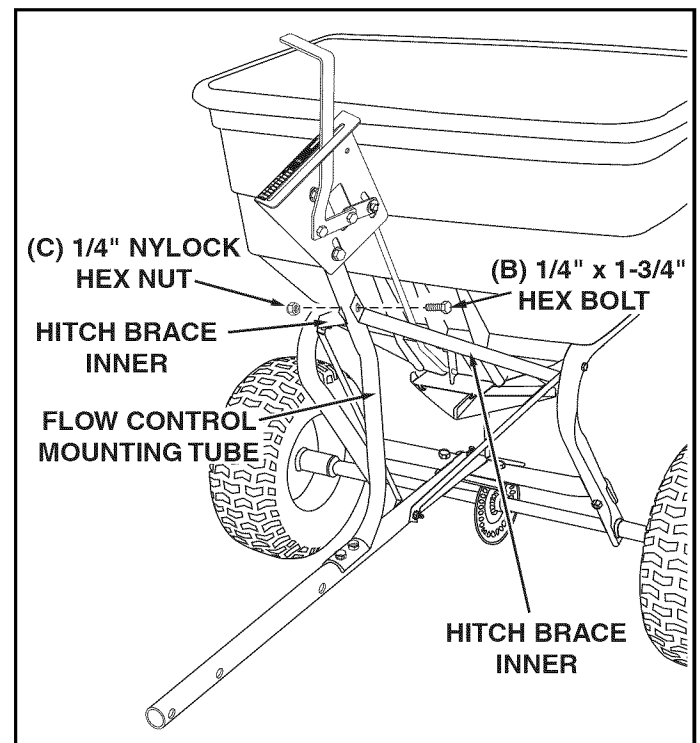

FIGURE 7
STEP 7: (SEE FIGURE 7)
13. Assemble the two **INNER** hitch braces to flow control mounting tube using a 1/4" x 1-3/4" hex bolt (B) and a 1/4" nylock hex nut (C). **DO NOT TIGHTEN YET.**